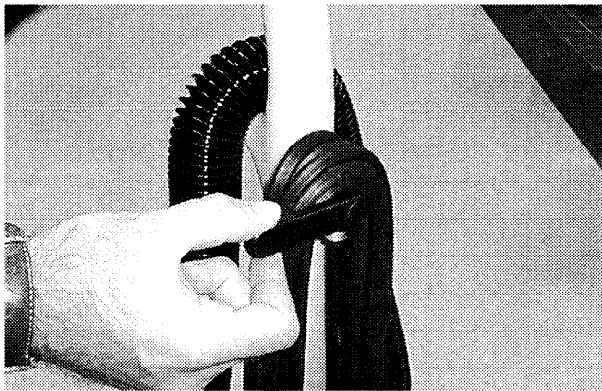

FIG. 6
3. Pull and turn quick-release hook to remove power cord (Figure 6).